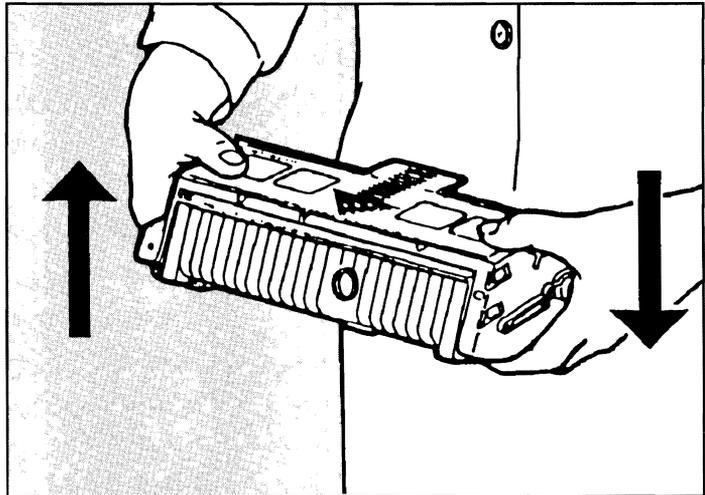

Figure 7-4. Rocking the Toner Cartridge
2. Slowly rock the cartridge from end to end five times to redistribute the remaining toner, as shown in figure 7-4.